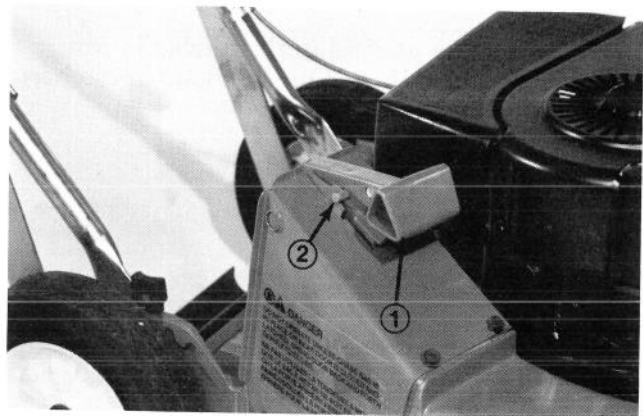

Figure 25
2. Move chute door handle fully forward, and check to insure handle latch pin is against inside of hook indicating door is fully closed (Fig. 25).